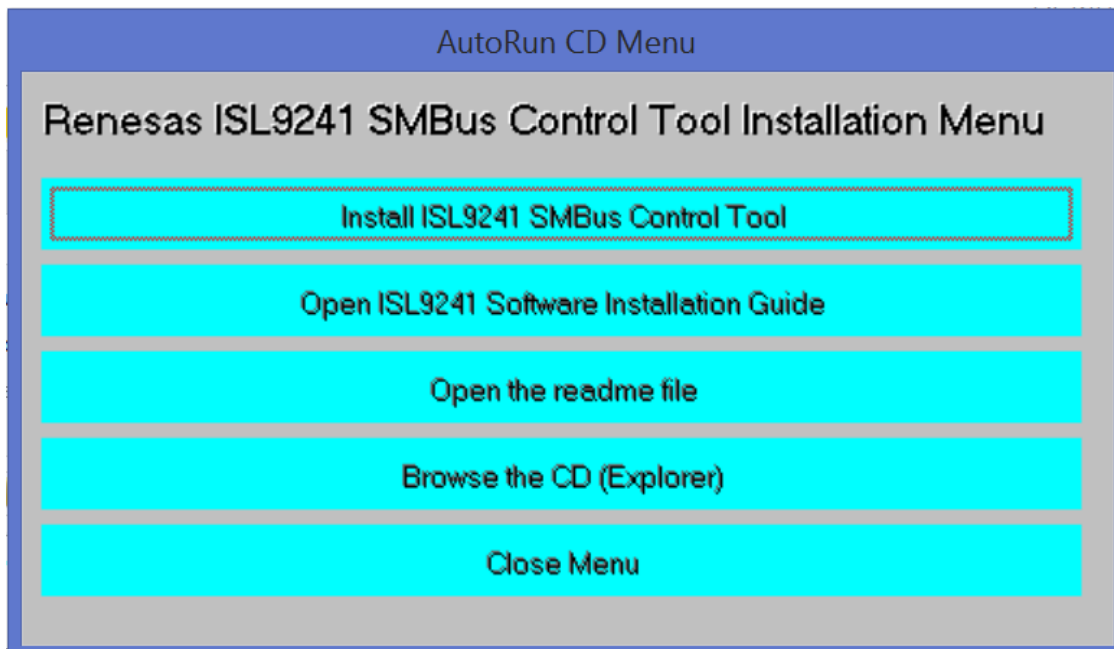

Figure 2. ISL9241 SMBus Control Tool Installation Wizard
- (1) Extract the zip file to the local drive, not the network drive. The network's security prohibits the **.inf** file from being copied onto the network.
- (2) Run **autorun.exe**. The menu in Figure 2 appears.